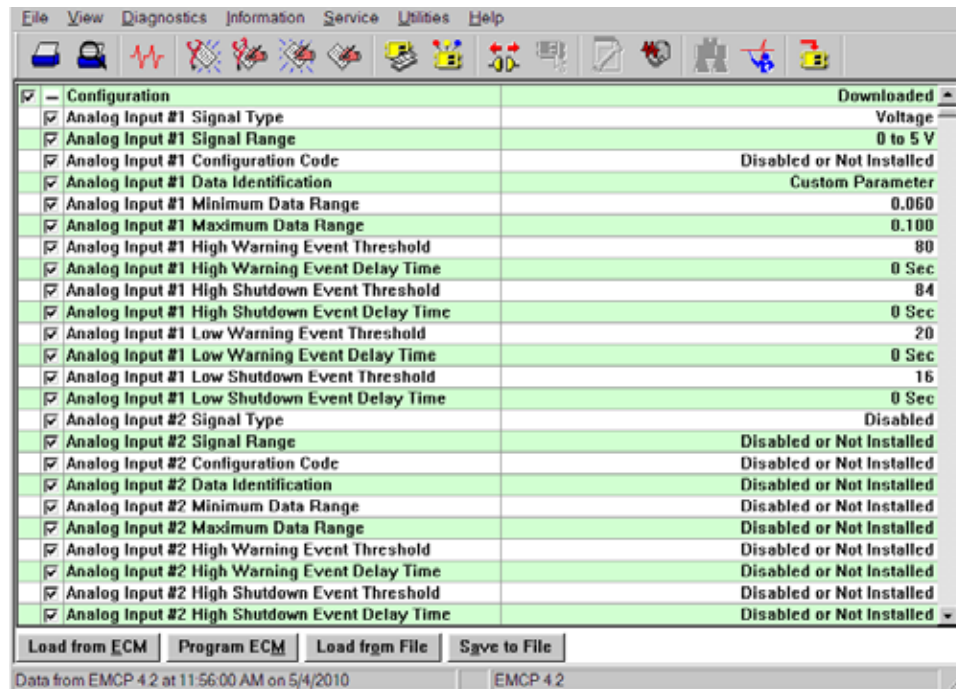

Figure 17.6 – ECM Replacement File Parameters
5. The replacement file parameters will be shown. See Figure 17.6.